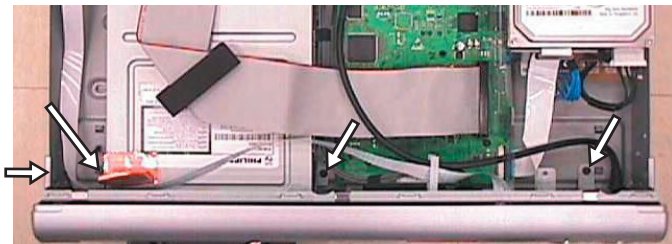

Figure 4-3
- 4) Loosen 3 screws and 2 catches as shown in Figure 4-3 to separate the Front panel assembly from the Frame assembly.